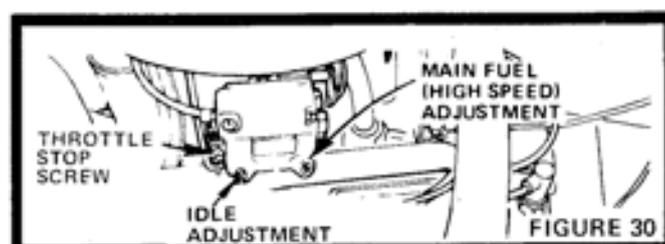

FIGURE 30
- Main Fuel (High Speed) Screw (Fig. 30) should not require adjustment. If resetting is necessary, turn clockwise, closing finger tight ONLY, then turn counterclockwise 1 - 1/2 turns.
- Turn Idle Adjusting Needle (Fig. 30) clockwise, closing finger tight ONLY, and then turn counterclockwise one turn.
- Throttle Stop Screw (Fig. 30) should not require adjustment. If resetting is necessary, set to obtain the slowest engine speed that will allow smooth acceleration.